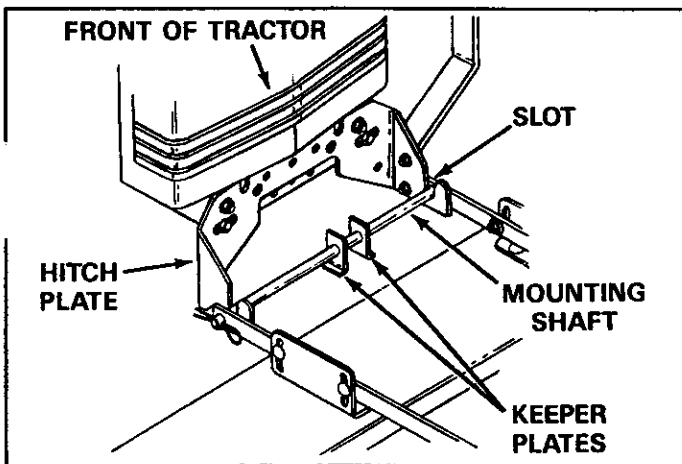

FIGURE 10
- Slide keeper plates toward center of mounting shaft. Attach assembled dethatcher to hitch plate by placing mounting shaft into slots at front of hitch plate. See figure 10.